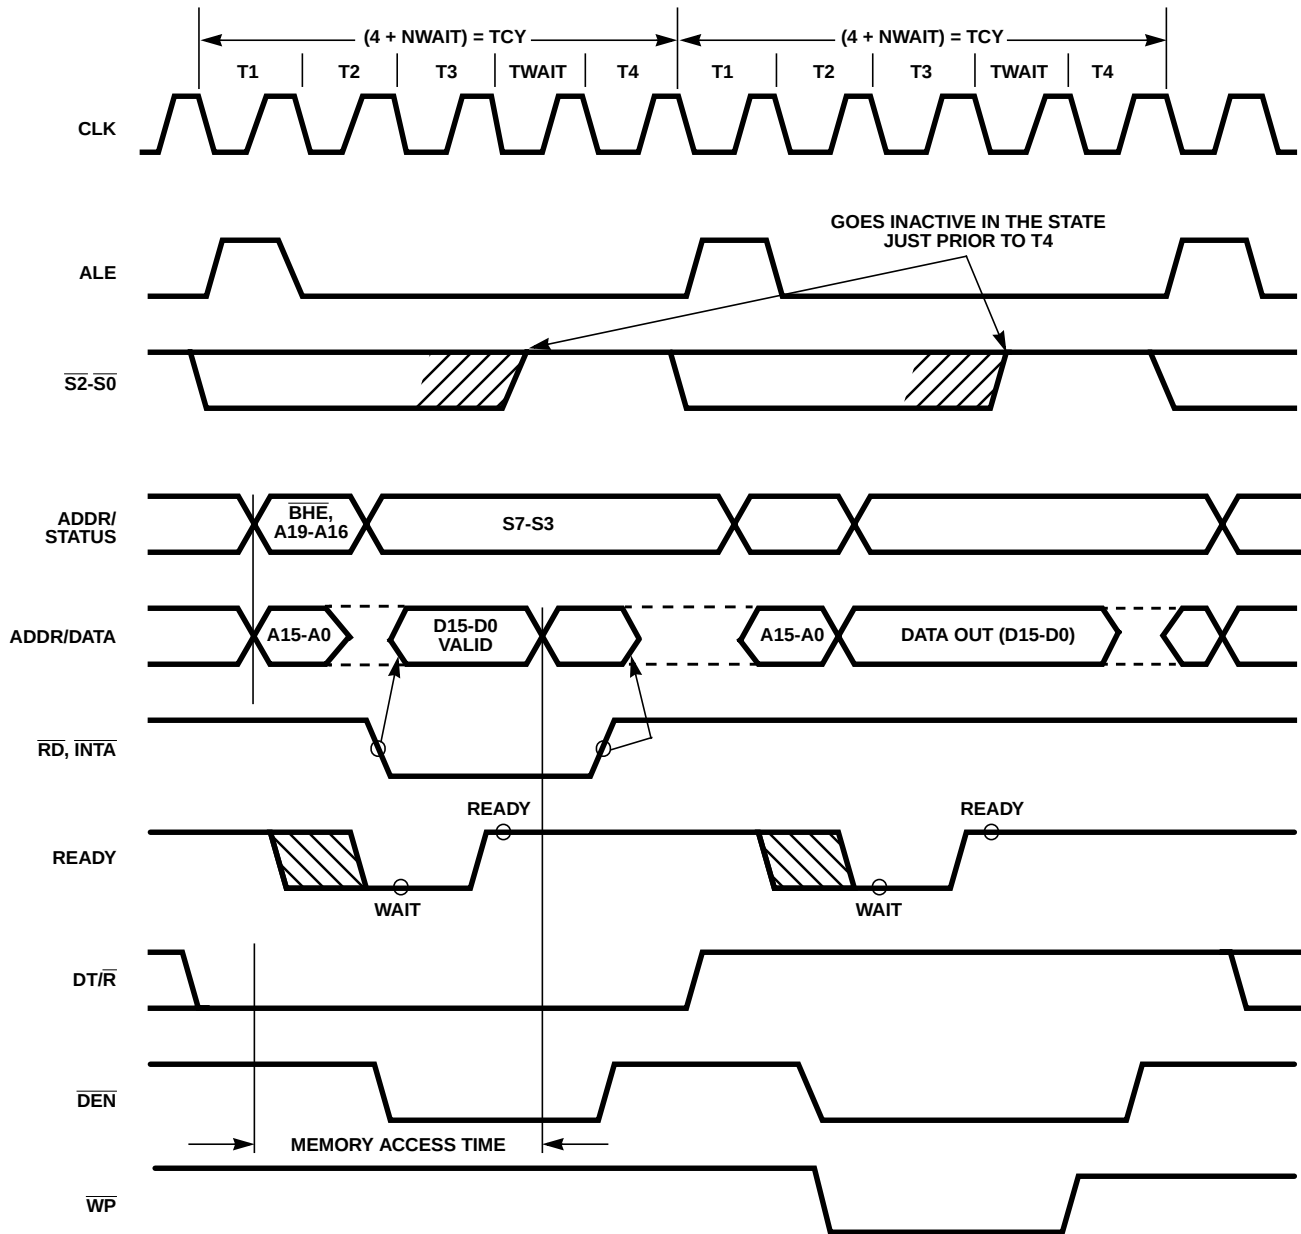

FIGURE 11. BASIC SYSTEM TIMING
Each processor bus cycle consists of at least four CLK cycles. These are referred to as T1, T2, T3 and T4 (see Figure 11). The address is emitted from the processor during T1 and data transfer occurs on the bus during T3 and T4. T2 is used primarily for changing the direction of the bus during read operations. In the event that a "NOT READY" indication is given by the addressed device, "Wait" states (TW) are inserted between T3 and T4. Each inserted wait state is the same duration as a CLK cycle. Idle periods occur between HS-80C86RH driven bus cycles whenever the processor performs internal processing.
Typical system configurations for the processor operating in minimum mode and in maximum mode are shown in Figures 14A and 14B, respectively. In minimum mode, the MN/ $\overline{MX}$ pin is strapped to VDD and the processor emits bus control signals (e.g. $\overline{RD}$, $\overline{WR}$, etc.) directly. In maximum mode, the MN/ $\overline{MX}$ pin is strapped to GND and the processor emits coded status information which the 82C88 bus controller used to generate Multibus™ compatible bus control signals. Figure 11 shows the signal timing relationships.